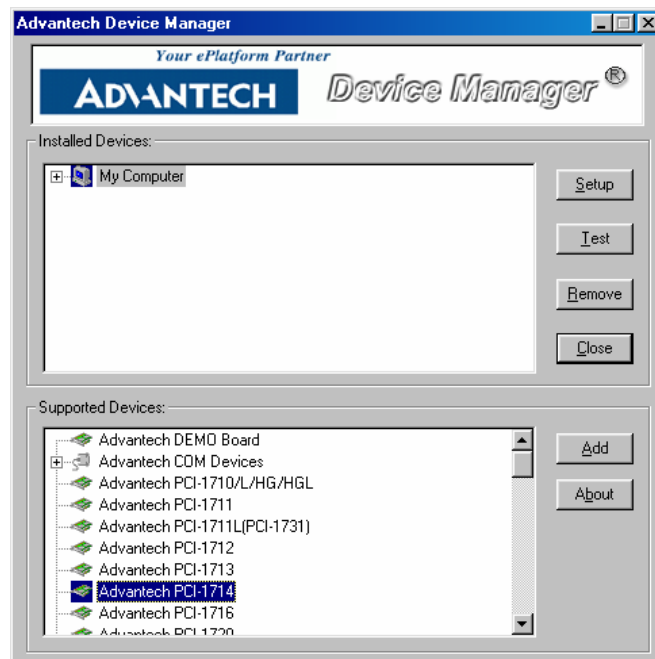

Fig. 2-4 The *Device Manager* dialog box
Step 2: You can then view the device(s) already installed on your system (if any) in the *Installed Devices* list box. Since you haven't installed any device yet, you might see a blank list such as the one below (*Fig. 2-4*).